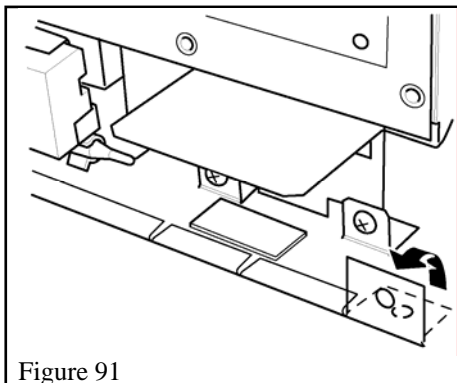

Figure 91
2. Raise vertically the two tabs in the metal base of the appliance. See figure 91.